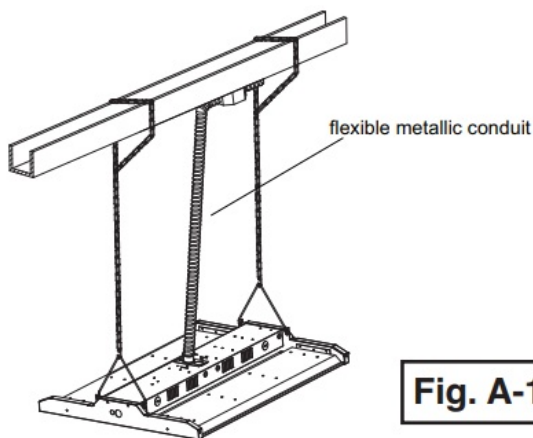

Fig. A-1
3. Connect the V-hooks to the chains with the hooks on each chain. Adjust the height of the installation by locking the chain hook on the other side of the chain. (Figure A-1)
4. Use the flexible metallic conduit to run the line, neutral and ground wires for powering the fixture. (Figure A-1)